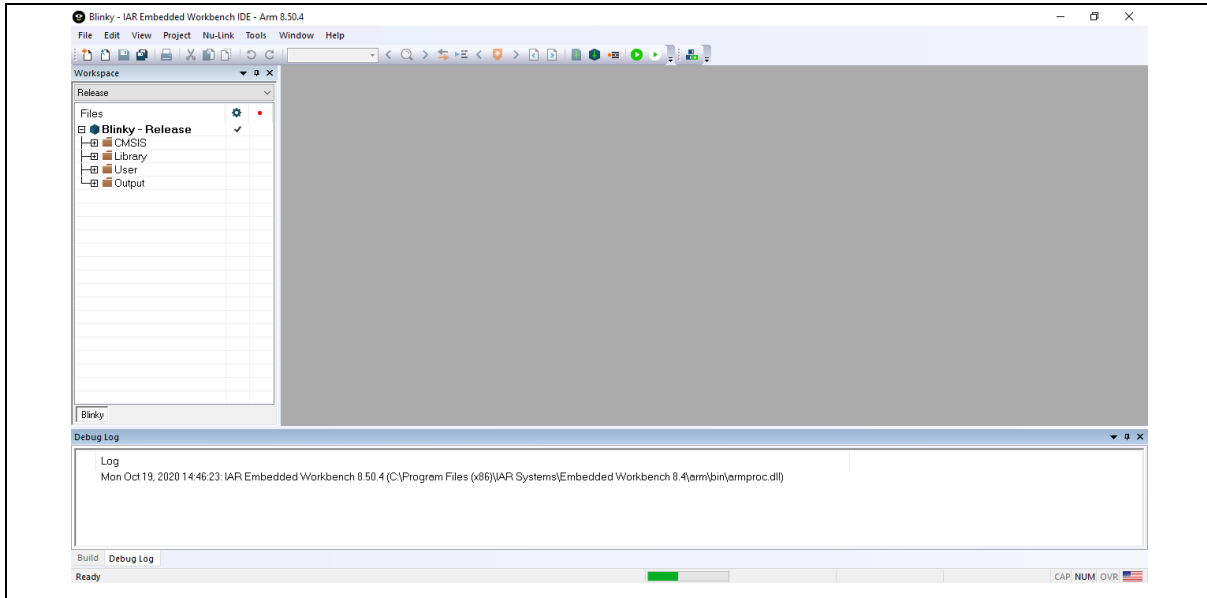

Figure 5-13 IAR EWARM Window
2. Make sure the toolbar contain “Nu-Link” item as shown in Figure 5-13.